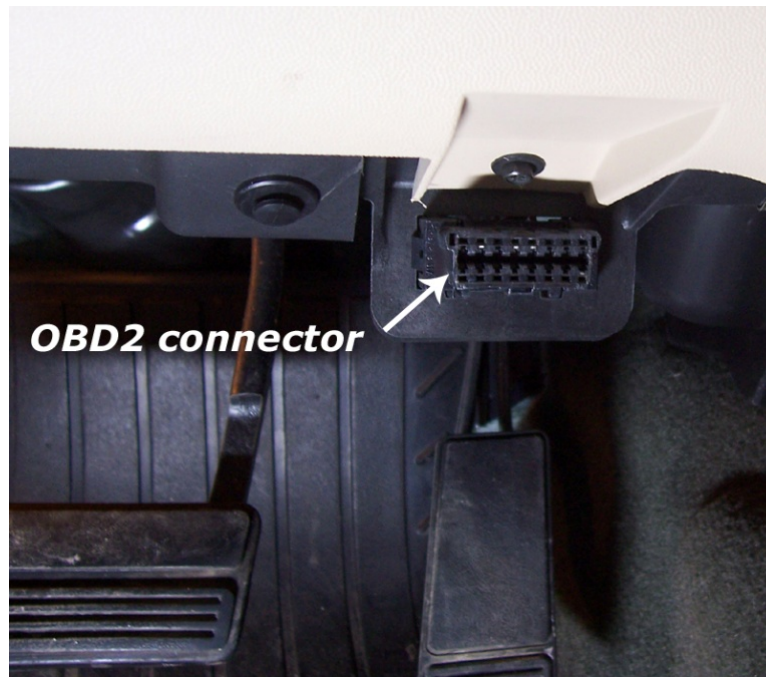

Figure 2
5. **Plug the main cable connector into the OBD2 connector.** *See figure 2.* The data, ground, and power on most vehicles come from this connector.